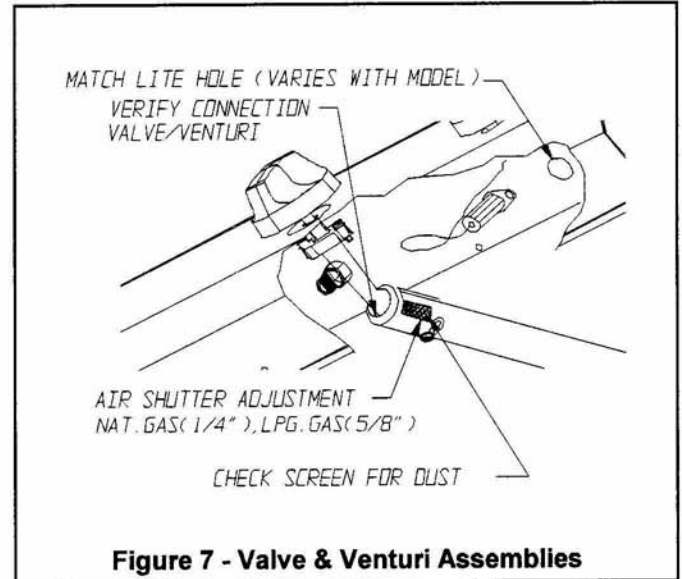

Figure 7 - Valve & Venturi Assemblies
- 2) Locate the valve and venturi assemblies by looking up and under the front control panel. Verify the venturi air shutter is engaged over the control valves (**figure 7**).